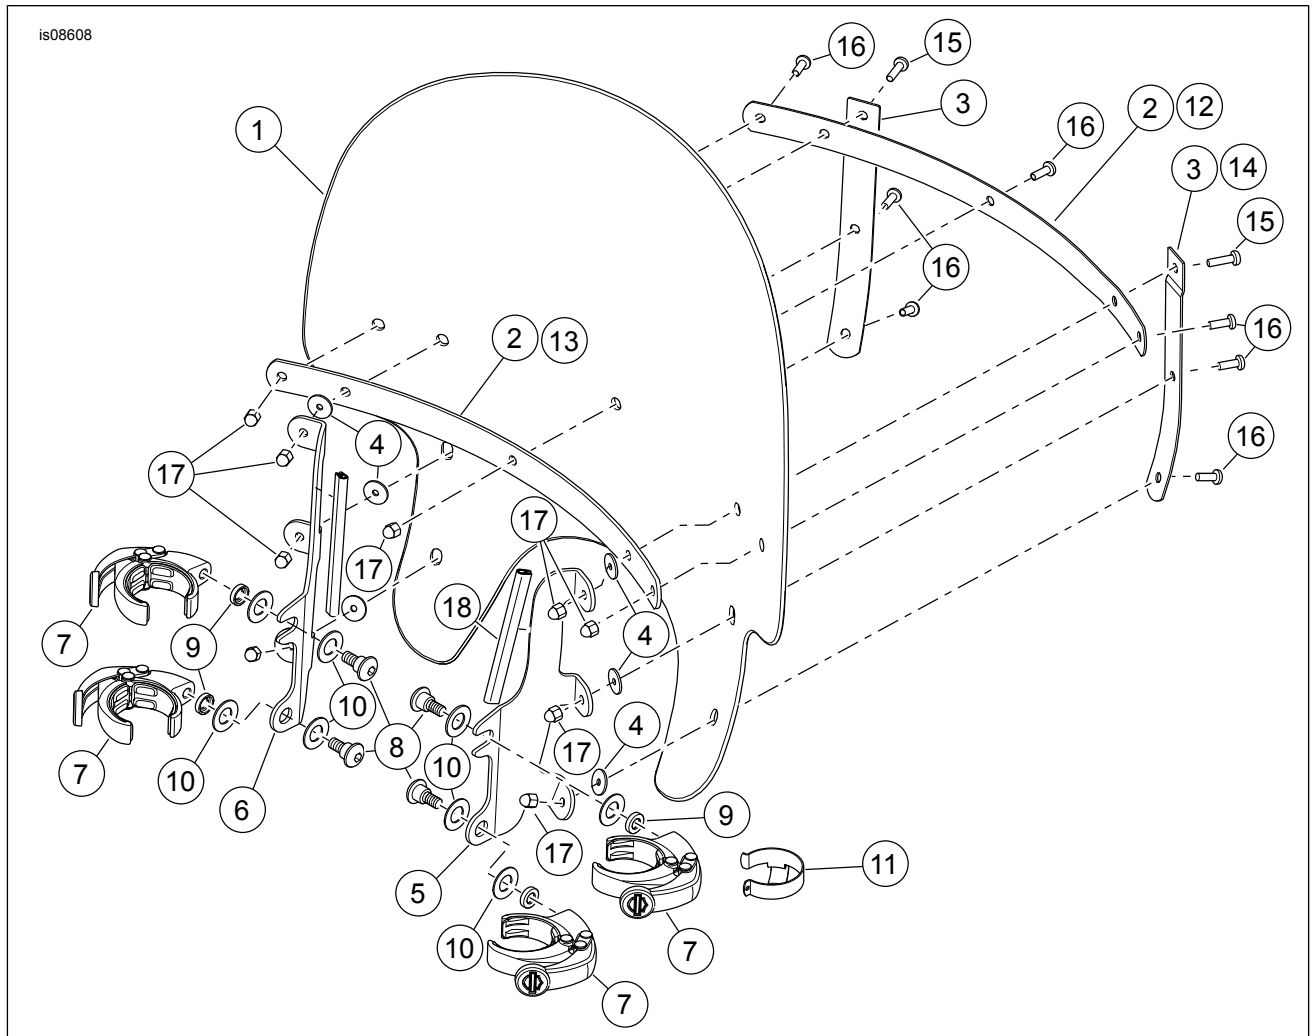

Figure 2. Service Parts: XL Quick Release Windshield
See Figure 2 and Table 1.
- See Figure 2. Snap the throttle cable clip (11) around the right side fork tube, and route the throttle cables through the guide opening.